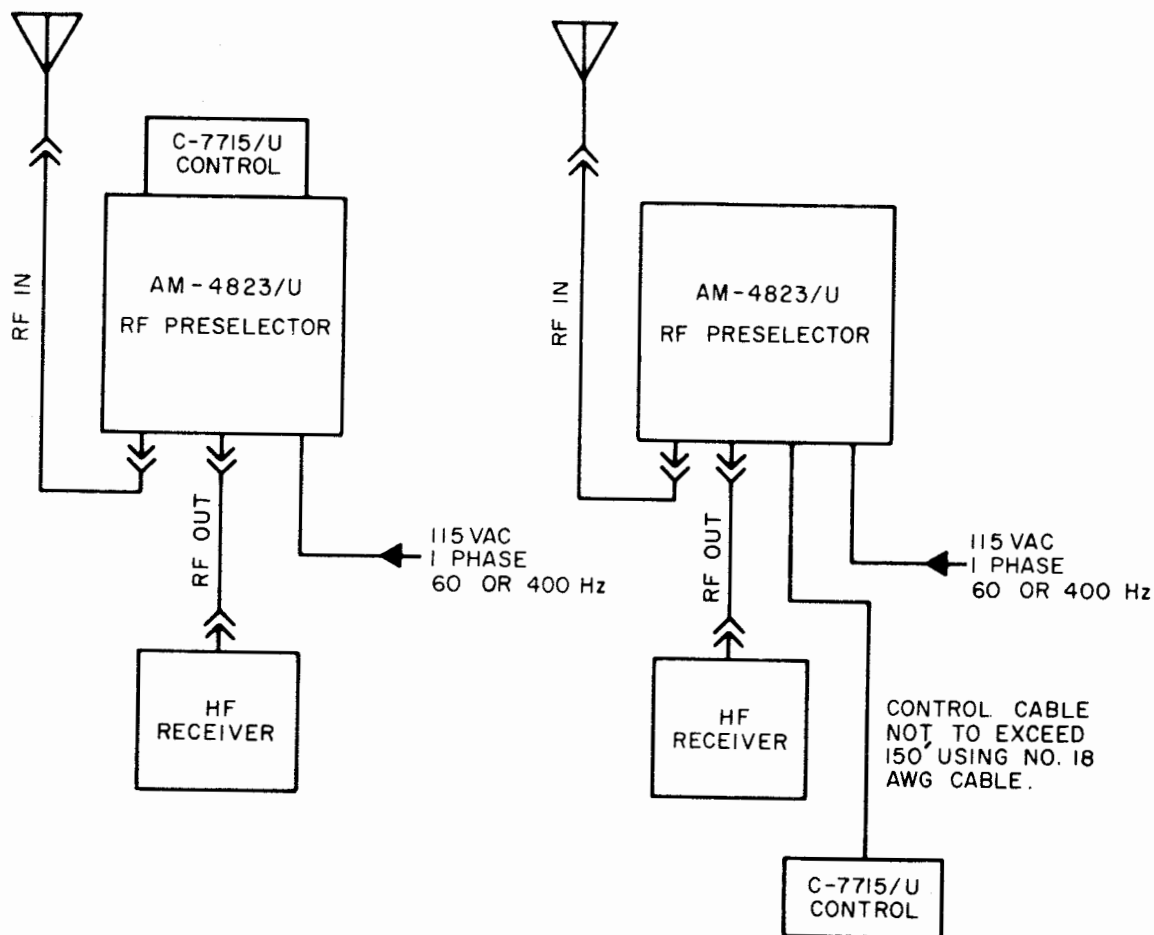

Figure 4-12 Radio Frequency Preselector Amplifier AM-4823/U Interconnection
c. INTERCONNECTION DIAGRAM. - See Figure 4-12.